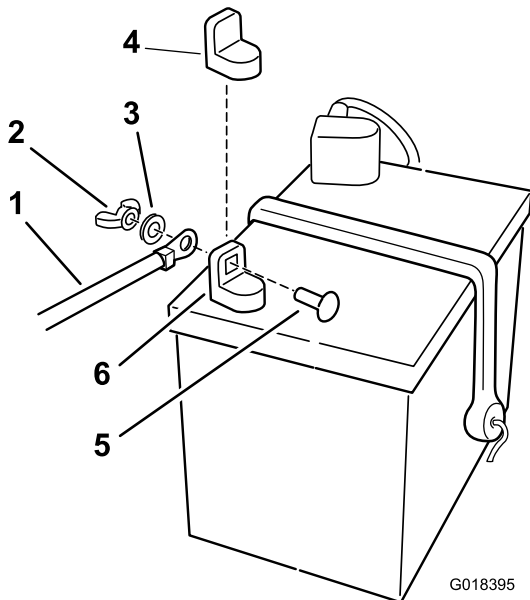

Figure 4
3. Remove the fasteners on the negative battery cable, and use them to secure the negative battery cable to the negative battery post (Figure 4).